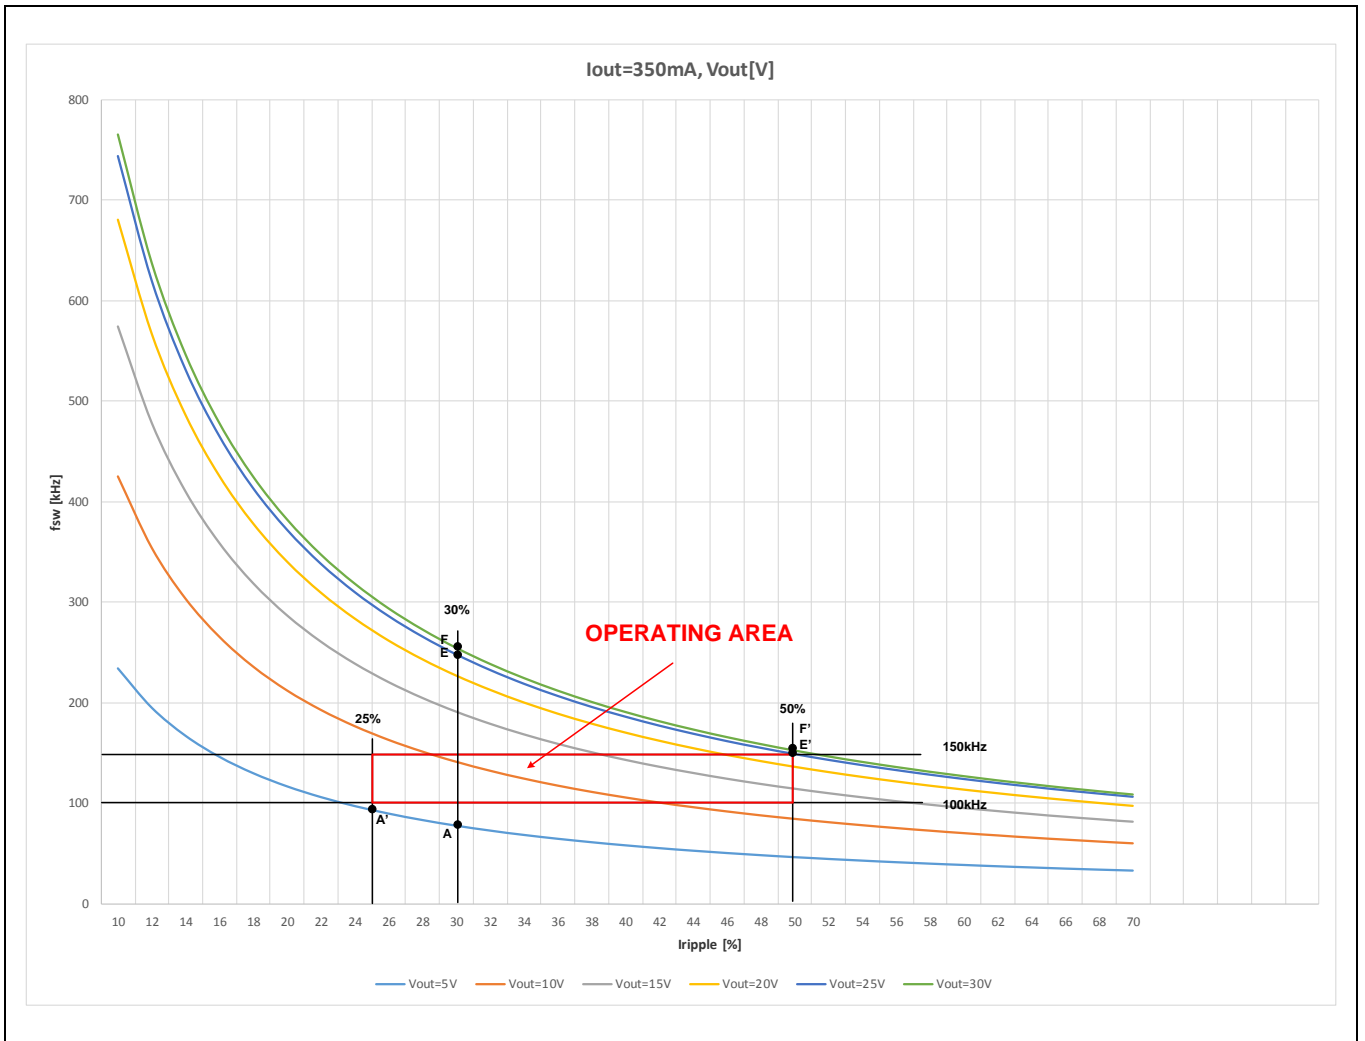

Figure 17. FRC Algorithm Example – Operating Point is outside the Predefined Borders
- 3) If the achieved operating frequency is above the maximum allowed switching frequency  $f_{sw\_max}$  (e.g.  $V_{out} = 25$  V – dark blue curve, point E;  $V_{out} = 30$  V – green curve, point F), the firmware will start to slowly increase the ripple in order to lower the operating frequency (the slope of this increasing ripple depends on the buck inductance  $L_{EXT}$ , see equation (12) on page 17). It will continue increasing the ripple until it hits its maximum allowed value  $I_{ripple\_max}$ . The switching frequency will be determined by  $I_{ripple\_max}$  and could be outside the predefined borders (corrected points E' and F', see Figure 17).
- 4) If the achieved operating frequency is below the minimum allowed switching frequency  $f_{sw\_min}$  (e.g.  $V_{out} = 5$  V – blue curve, point A), the firmware will start to slowly decrease the ripple in order to raise the operating frequency (the slope of this decreasing ripple depends on the buck inductance  $L_{EXT}$ , see equation (12) on page 17). It will continue decreasing the ripple until the frequency reaches the low threshold value defined by the parameter  $f_{sw\_min}$ , or if the ripple hits the minimum allowed value defined by the parameter  $I_{ripple\_min}$ . In this case, the switching frequency could be outside the predefined borders (corrected point A', see Figure 17).